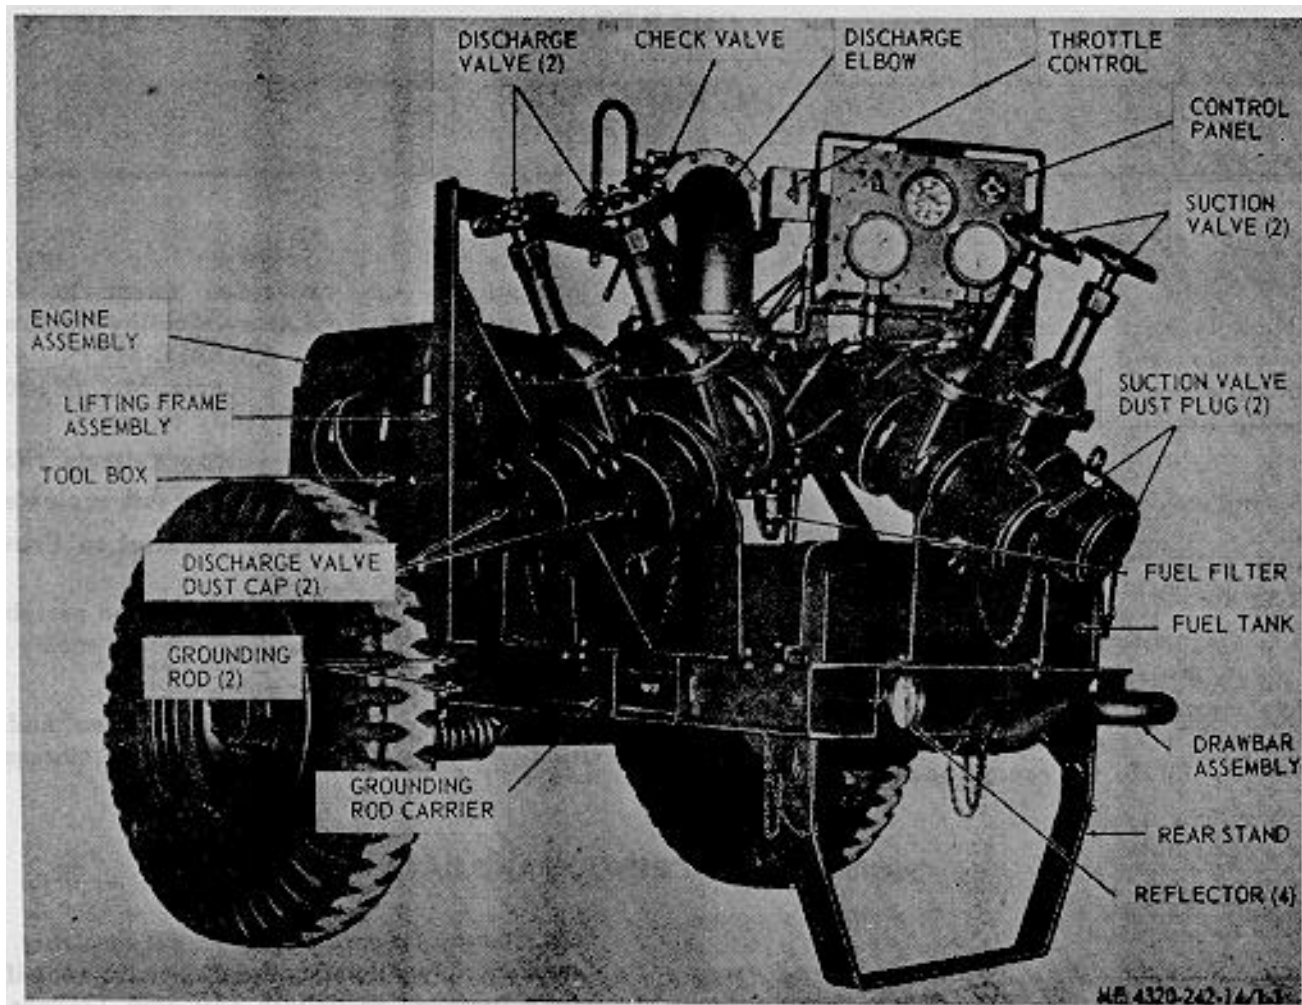

Figure 1-1. Pump assembly, right-front, three-quarter view.
*a. General.* The Gormann-Rupp pump assembly, model 84C15-4A084 or Barnes pump assembly, model US36ACG (fig. 1-1 and 1-2) is a self-contained, wheel mounted, self-priming unit designed for bulk transfer of flammable liquid petroleum fuels. It is powered by a four-cylinder gasoline engine directly coupled to the pumping assembly. Instruments and controls necessary for operation of the unit are mounted on the instrument panel. Additional controls include two suction valves, two discharge valves, air -venting valve, and discharge check valve.